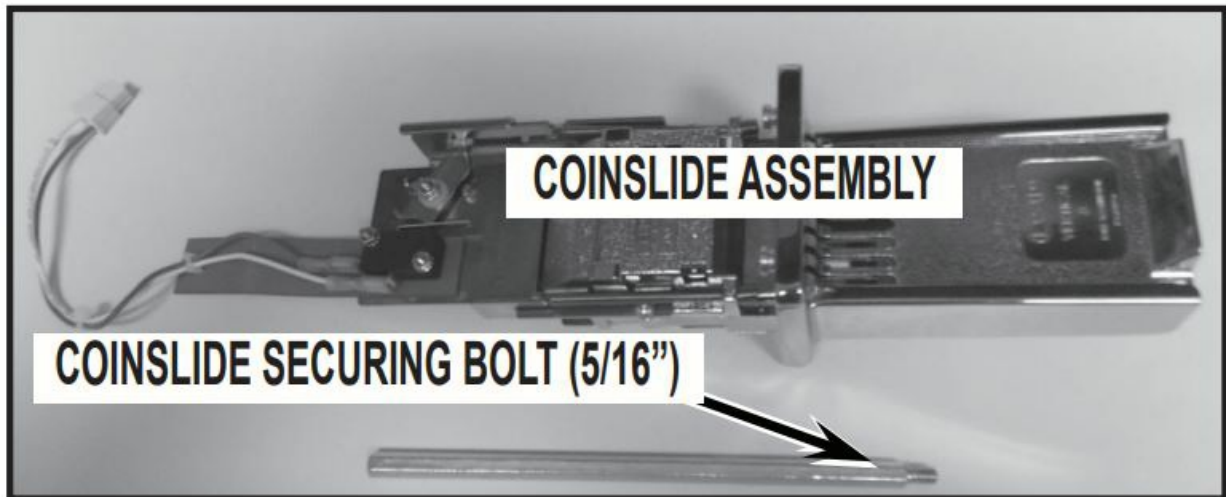

FIGURE 1
5. Lift up on the coinslide assembly and pull the entire coinslide mechanism out of the metercase. See Figure 1.